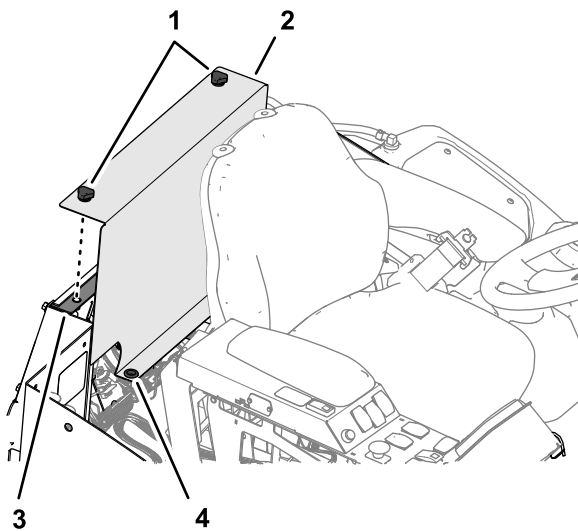

Figure 20
1. Align the grommets at the bottom of the electrical-panel cover (Figure 20) with the 2 pins in the floor panel.
2. Align the threaded rods of the knobs attached to the cover with the cinch nuts of the electrical plate (Figure 20).
3. Assemble the cover to the plate and secure the panel with the knobs (Figure 20).